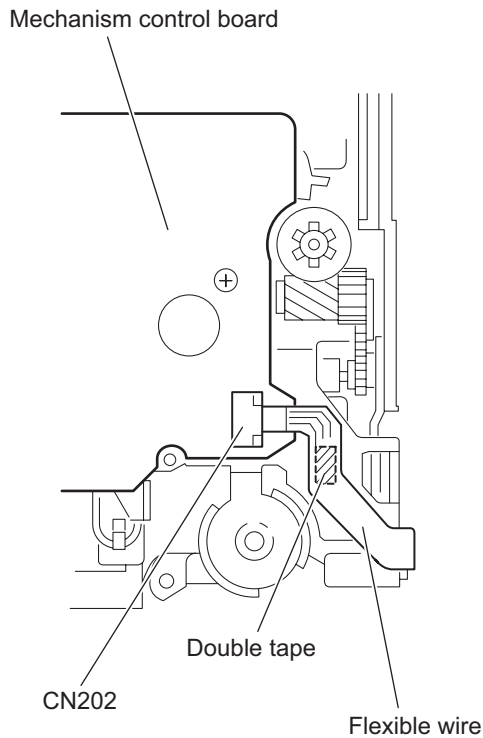

Fig.10
### 3.2.6 Removing the front unit (See Fig.10 to 12)
- Disconnect the flexible wire from connector **CN202** on the mechanism control board at the bottom of the body. (See Fig.10.)
When reassembling, attach the flexible wire extending from the switch board using the double tape. (See Figs.10 and 12.)